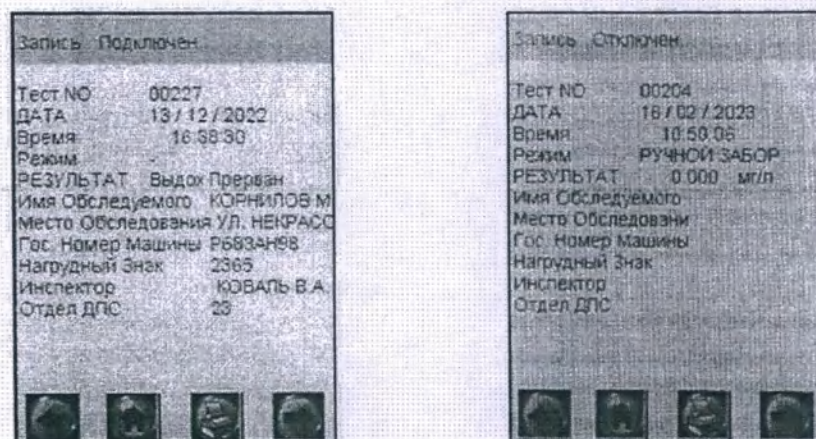
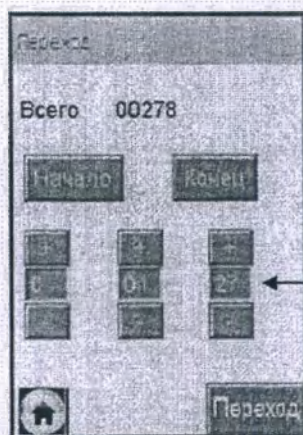

Figure 27 – Viewing test memory
Figure 28 – Quick transition to the required protocol
Record” window will appear on the touch screen with the protocol of the last measurement or the last viewed protocol (Figure 27).
2.13.3 If measurements were made in measurement mode with data entry, the measurement results are stored in memory together with automatically saved data (in accordance with 1.4.7 of this manual) and with data entered into the fields intended for filling in (Figure 27, left).
2.13.4 If measurements were made in the measurement mode without entering data, only the measurement results are stored in memory together with automatically saved data (according to 1.4.7 of this manual) (Figure 27, right).
– while in the “Record” window (Figure 27), press and hold the service button and briefly press the on/off button, release both buttons; a window for switching to the required protocol will appear on the screen (Figure 28);